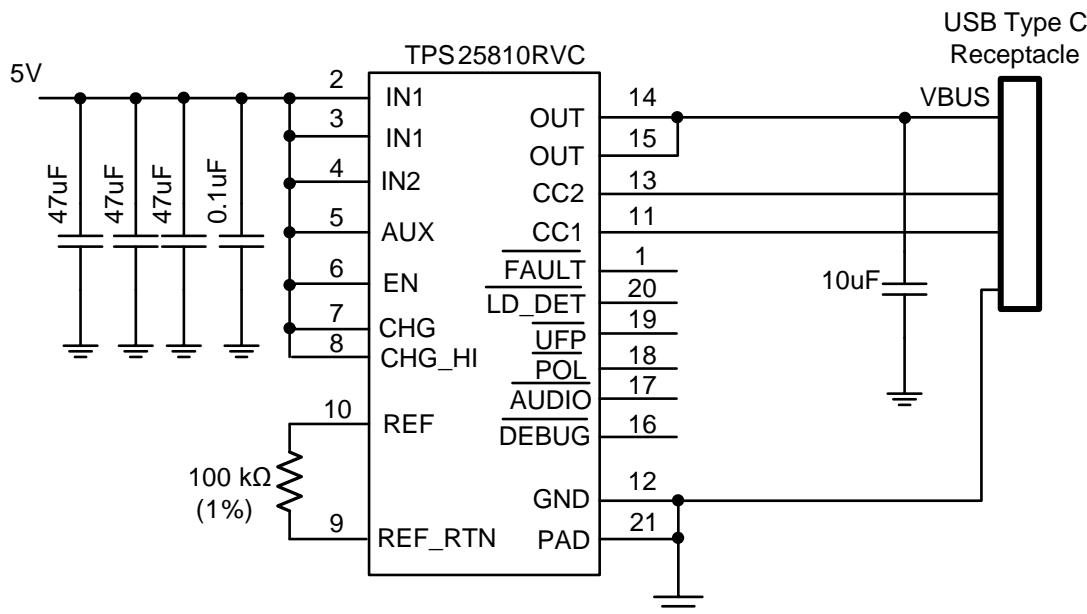

Figure 19. Type-C DFP Port Implementation without BC 1.2 Support
Figure 19 shows a minimal Type-C DFP implementation capable of supporting 5-V and 3-A charging.
The TPS25810 device supports three different input voltages based on the application. In the simplest implementation all input supplies are tied to a single voltage source as shown in Figure 19 which is set to 5 V. However, it is recommended to set a slightly higher (100 mV to 200 mV) input voltage, when possible, to compensate for IR drop from the source to the Type C connector.
- Depending on the max current level advertisement supported by the Type-C port in the system, set CHG and CHG_HI levels accordingly. 3 A advertisement is shown in Figure 19.